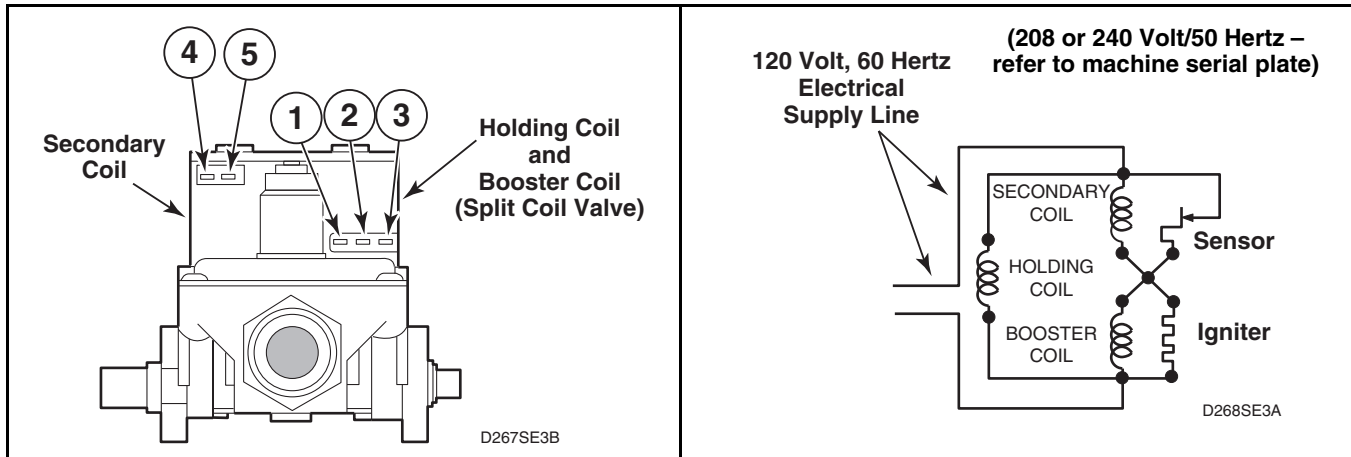

Figure 35
(Gas Models – Refer to *Figure 35*.)
- f. Set test meter to read AC voltage and apply meter probes into terminals on the dryer harness plug that would correspond to terminals "1" and "2" on the coil. *Figure 35*. Meter should register line voltage in all Fabric settings, except FLUFF which should read "zero" VAC.